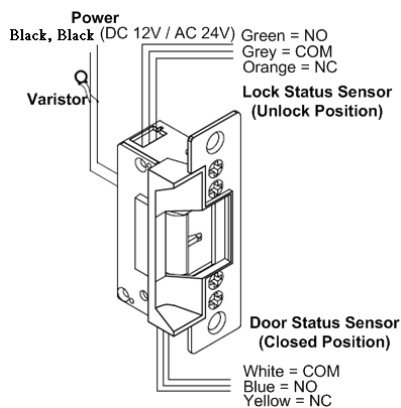

Figure 3
- To prevent strike from spike, connect the Varistor between the input power wires (Figure 3).